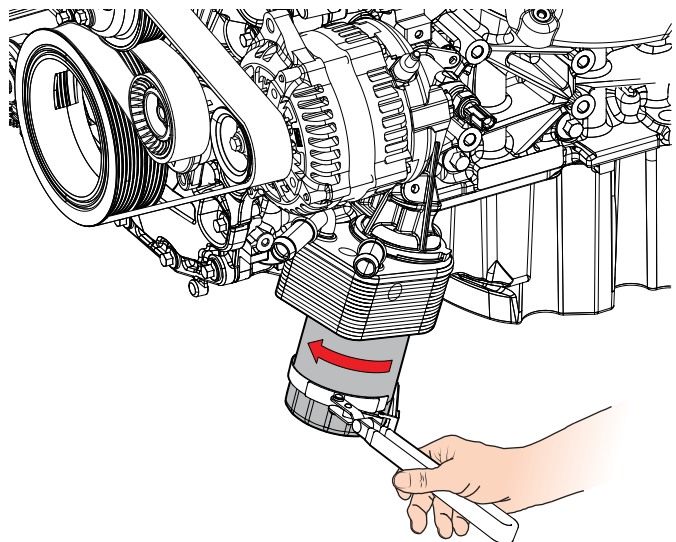

Figure 65. Oil Filter Removal
6. Using a filter wrench (Figure 65), turn the oil filter counterclockwise to remove.